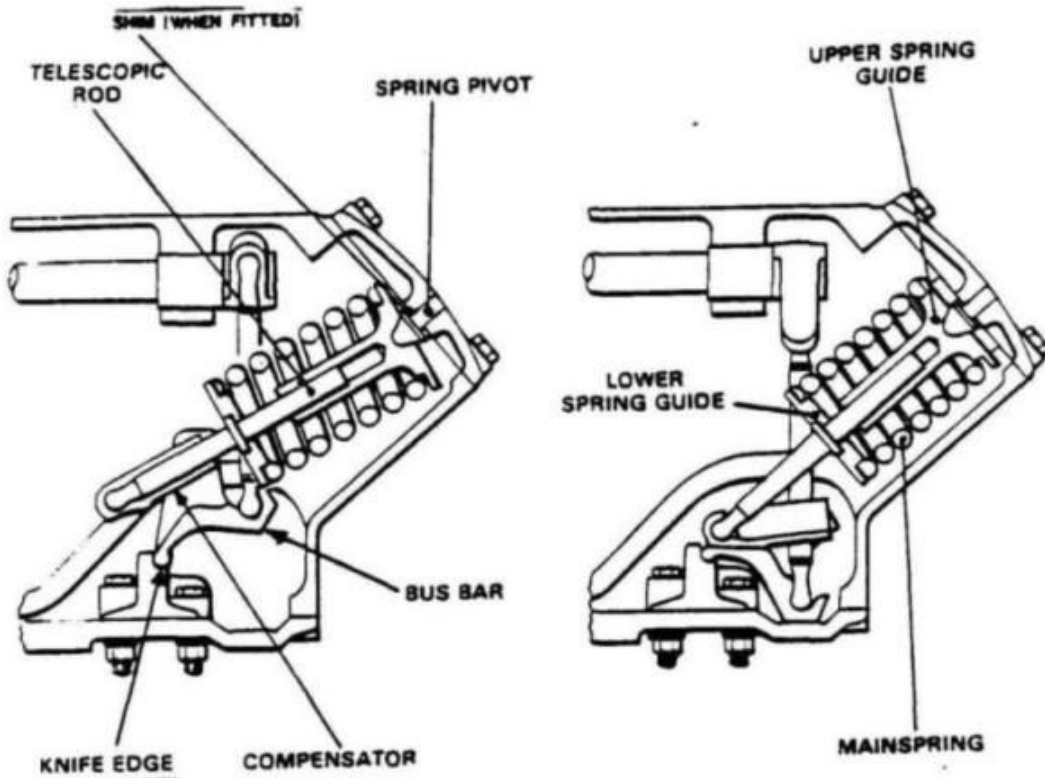

Fig 5.1 MAINSPRING AND BUCKET
- 5.2 Mainspring and bucket. (Fig 5.1) The function of the mainspring is to keep the bus-bar up so that gears, once engaged, stay engaged. It is fitted round a telescoping rod to allow for compression and extension during operation. The inner end of the rod seats in a "bucket" which is pivoted on the bus-bar shoulders. The upper end has a socket resting on a pivot on the spring cover.